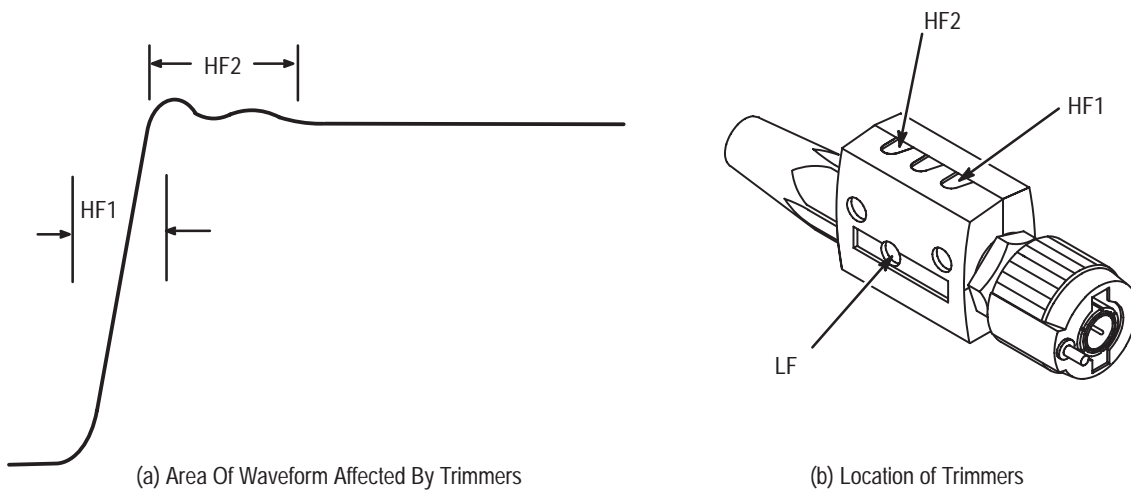

Figure 4: Adjusting High-Frequency Compensation
2. Connect the probe to the signal source and display a 1 MHz test signal on your oscilloscope. Adjust your oscilloscope to $.01 \mu\text{s}/\text{division}$. The display should be similar to that shown in Figure 4(a).